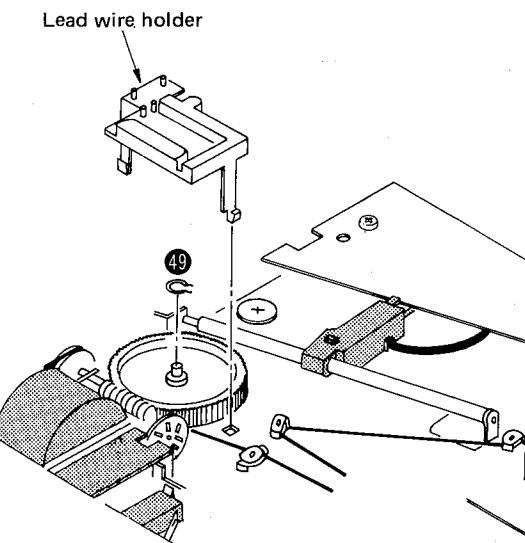

Fig. 18
2. Remove the lead wire holder. (See Fig. 18)
3. Remove the C-ring of the arm drive wheel and remove the drive wheel. (See Fig. 18 : ⑨)